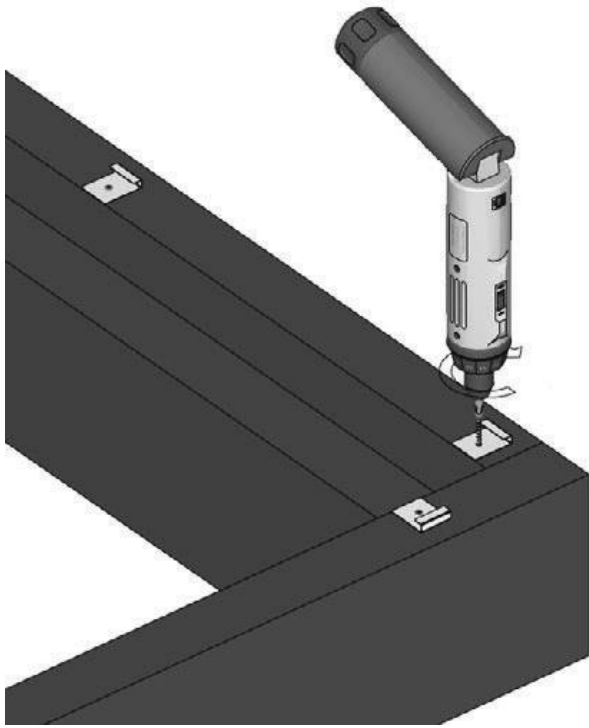

FIG. 21 – STARTER FASTENERS SECURED TO THE OUTER JOIST
- 01 Secure starter fasteners onto the outer joist (fig. 21) at 300 mm intervals.